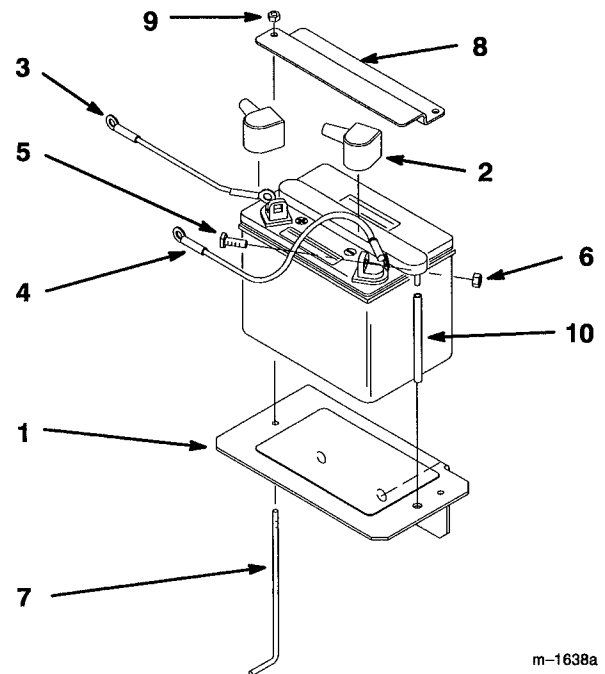

Figure 8
- Position battery onto holder with terminal posts away from the engine (Fig. 8).
- Install the positive (red) battery cable to positive (+) battery terminal and the negative battery cable to the negative (-) battery terminal. Secure cables with (2) 1/4 x 3/4" (19 mm) carriage bolts and 1/4" nuts.
- Mount battery to holder with (2) support rods, a battery clamp and (2) 1/4" locknuts. Position support rods in mounting holes (Fig. 8). Tighten locknuts so battery is held securely in position and will not slide. DO NOT OVERTIGHTEN.